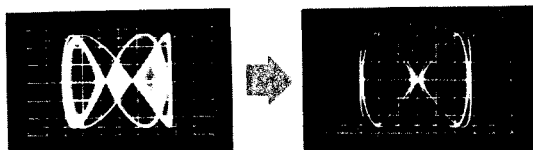

Fig. 3-7 Lissajous pattern
- (2) Adjust the oscilloscope controls to obtain a visible indication. Be sure the scope's horizontal display switch is set for external input.
- (3) Turn the pilot-signal (19 kHz) phase control to obtain an in-phase and stable lissajous pattern as shown in Fig. 3-7.